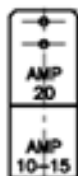

Figure 26: Paddle Markings
Make sure that all adjustments at high fire are made with the throttle, not offset screw (see Figure 26).
- ii. Remove flow switch and visually inspect paddle length. The markings, BFIT 20 and BFIT 10-15, shown in Figure 26 should be visible for a specific size boiler.